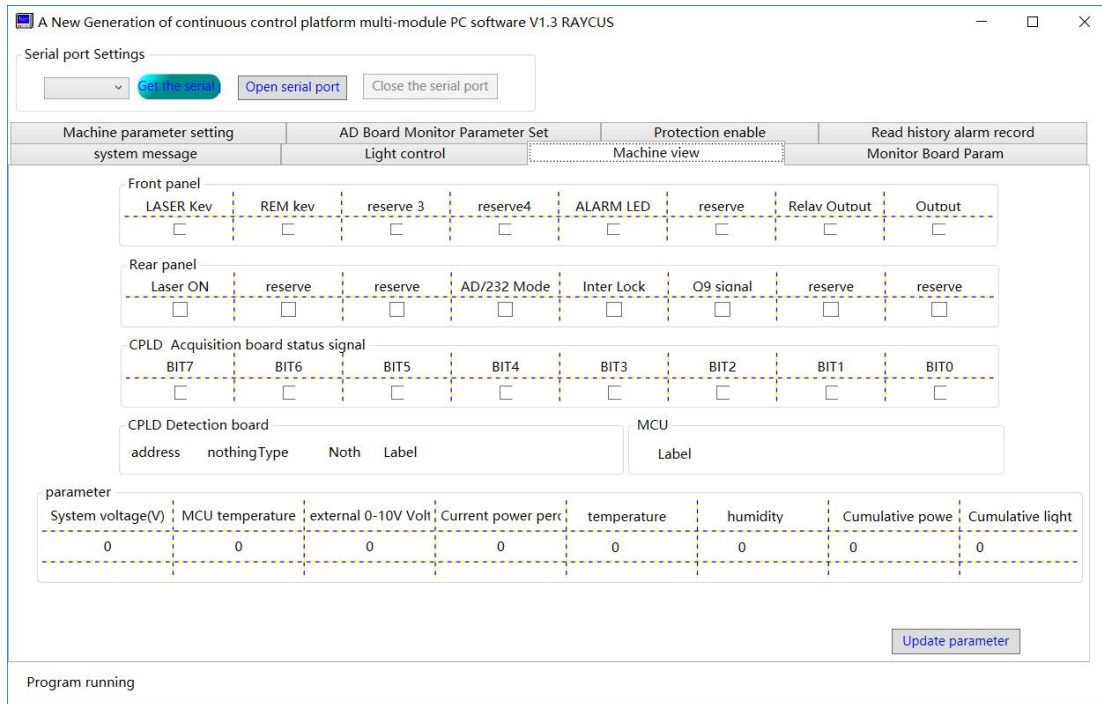

Figure 17 Inteface 2 of the RAYCUS laser client control software.
- (6) After connecting the serial port, select machine view and click “update parameter” to collect the laser state at present, in Figure 17: